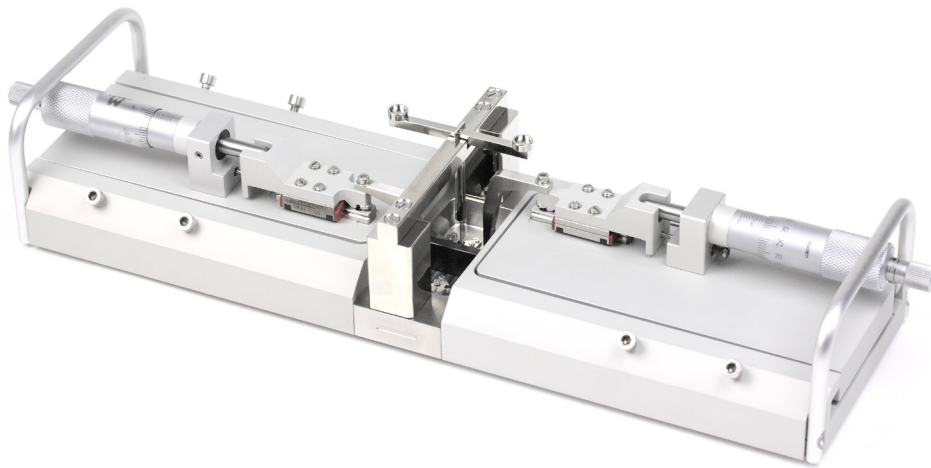

Figure 4.5 Weight calibration setup
3. After approximately 20-30 minutes the whole system will have reached the target temperature (normally 37°C). Place the warmed calibration bridge and balance on the myograph unit as illustrated in figure 4.5 on next page.
5. Loosen and remove the two Allen screws (B) and washers as illustrated in figure 4.5 on previous page and carefully remove the old transducer.